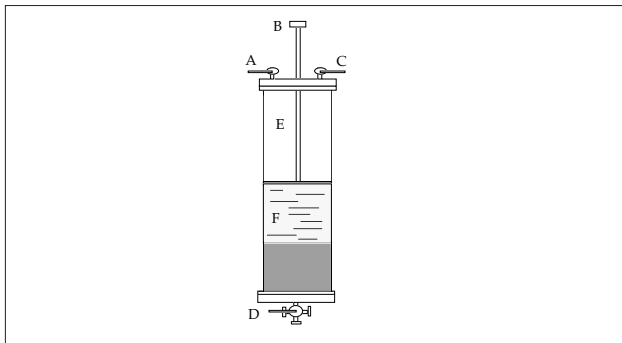

Fig. 4. Schematic representation of INdEX columns showing the hydraulic functions.
6. Open the hydraulic inlet (A), see Fig. 4, and the hydraulic outlet (C). Start the pump and flush the hydraulic chamber (E) free of air and any residual media.
7. Close (C) and open the elution inlet/outlet (B) to release any trapped air in the adaptor net.
8. Close (B) and open the elution inlet/outlet (D) to start the packing, applying a predefined constant hydraulic packing pressure.
- When the bed has settled (no flow at the column outlet), stop the packing procedure by closing (A) and (D). The adaptor stops when the hydraulic force exerted downwards is balanced by the mechanical force of the bed exerted upwards.
- To unpack the column, connect the outlet from the pump to (B) and open (C) while keeping (D) closed. This will cause the adaptor to rise from the bed surface.